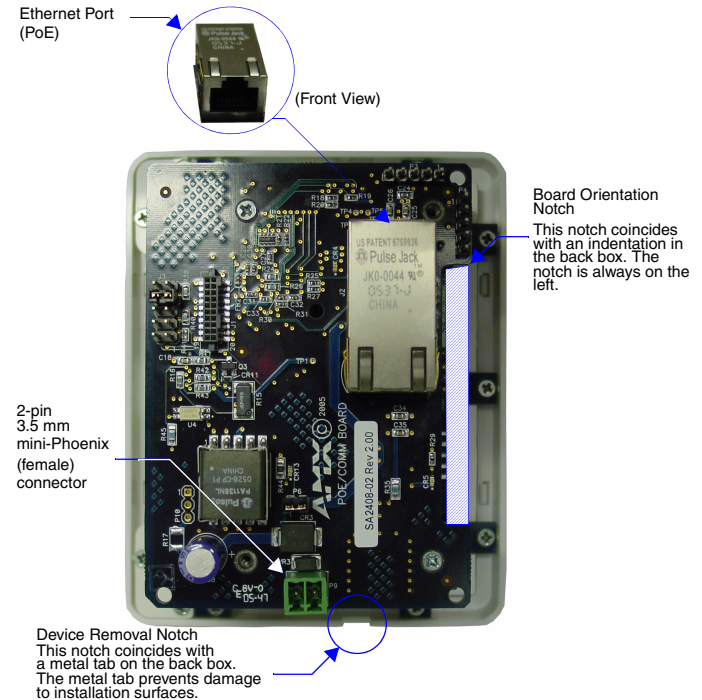

FIG. 2 Mio Modero DMS Rear Components
The rear components of the Mio Modero DMS (FIG. 2) are as follows:
Connect your CAT5/CAT6 Ethernet cable to the port shown in FIG. 2. (See the *Mio Modero DMS & Mio Modero DMS Pinnacle* instruction manual for an illustration and cable pinouts).
1. If assembled, remove the Mio Modero DMS from the backbox. Place a flathead screwdriver between the tab of the backbox and the notch of the Mio Modero DMS (see FIG. 2) and pry the two apart.
6. Connect the 2-pin power connector and/or CAT5/CAT6 cables in the back of the Mio DMS. See FIG. 2 for port locations.